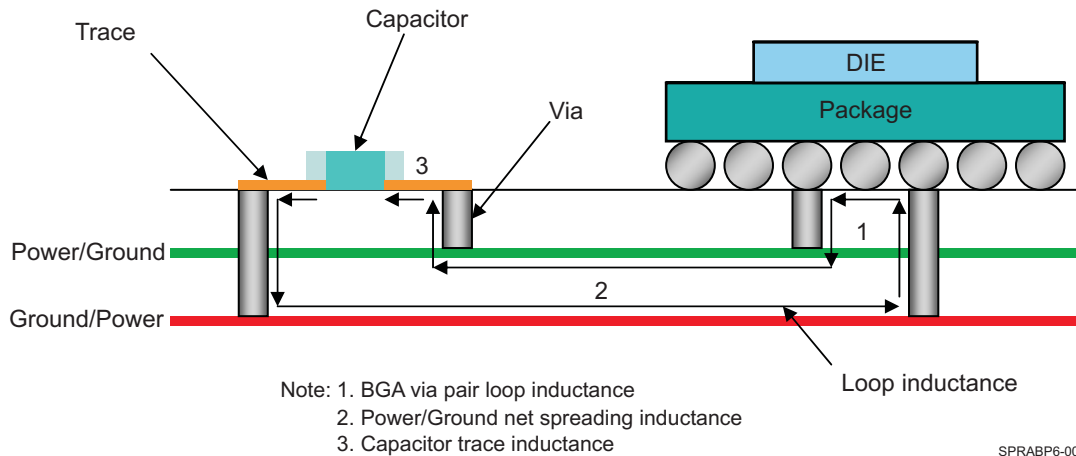

图 7-1. Minimize Loop Inductance With Proper Layer Assignment
- Optimize the power and ground plane pair carrying high current supplies to key component power domains as close as possible to the same surface where these components are placed (see 图 7-1). This will help to minimize "loop inductance" encountered between supply decoupling capacitors and component supply inputs and between power and ground plane pairs.
The placement of power and ground planes in the PCB stackup (determined by layer assignment) has a significant impact on the parasitic inductances of power current path as shown in 图 7-1. For this reason, it is recommended to consider layer order in the early stages of the PCB PDN design cycle, putting high-priority supplies in the top half of the stackup (assuming high load and priority components are mounted on the top-side of PCB) and low-priority supplies in the bottom half of the stackup as shown in the examples below (vias have parasitic inductances which impact the bottom layers more, so it is advised to put the sensitive and high-priority power supplies on the top/same layers).
Wherever possible, mount the capacitor with the geometry that minimizes the mounting inductance and resistance. This was shown earlier in 图 7-1. The capacitor mounting inductance and resistance values include the inductance and resistance of the pads, trace, and vias. Whenever possible, use footprints that have the lowest inductance configuration as shown in 图 7-15